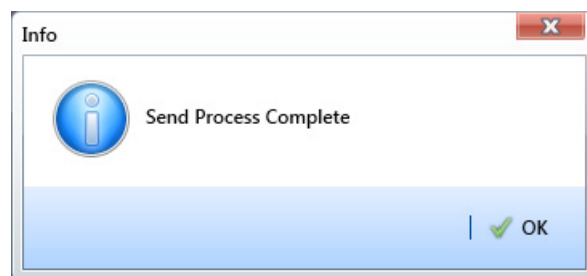

Figure 13-5. Send Process Complete
- 13 When a message displays confirming the send process is complete, click  **OK** to close the message (Figure 13-5).